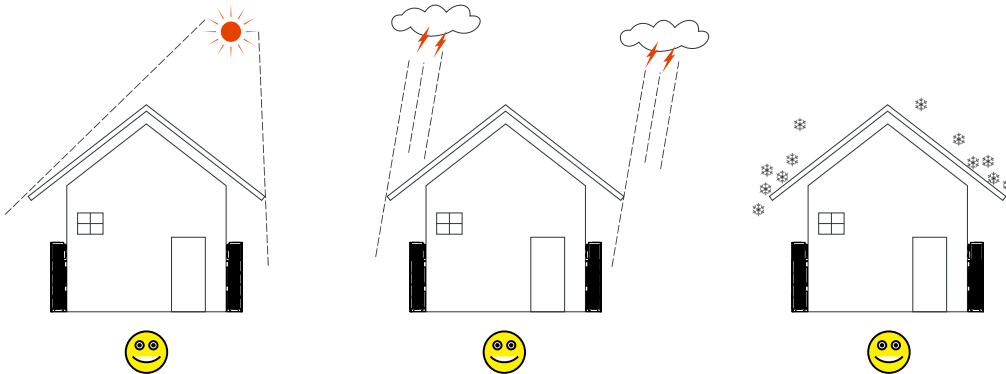

Figure3-2 Recommended installation environment
2. It is suggested to install the iStoragE1 product under shade as shown in Figure3-2 to max the iStoragE1 product lifespan and efficiency.